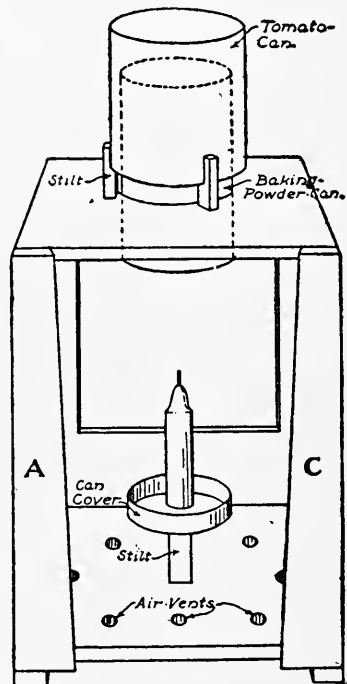

FIG. 176.—A Home-made Dark-room Lantern.
**A Home-made Lantern**, such as is illustrated in Fig. 176, will be found very satisfactory. It is made out of a wooden box about ten by ten by twelve inches. Cut two openings six inches square in two sides of the box and cover one with one sheet and the other with two sheets of orange or red paper, spreading paste over the entire surface of the paper to make it stretch tightly over the openings as it dries. The orange and red wrappers of some makes of printing papers and developing powders can be used for the covering of these openings.
can, remove the cover and bottom, and insert it in a hole cut for it in the top of the box. Then an arrangement must be made, as shown in Fig. 176, to prevent light from emitting from the top of the can. This consists of a tomato-can placed over the baking-powder can, bottom side up, with its edge fastened in kerfs cut in the ends of four wooden stilts (see illustration). Drive the stilts firmly into holes bored for them in the top of the box. The
door, which should be made in three pieces, with the edges cut and bevelled as shown in Figs. 176 and 177. Nail strips *A* and *C* to the back of the box, and slip *B* between them. A screw-eye near the bottom of *B* will serve as a lift in opening the lantern. As the edges of the strips are cut on a slant and bevelled, a joint which cannot possibly leak light is obtained when *B* is slipped into place. All cracks in the box should be carefully filled with white lead.